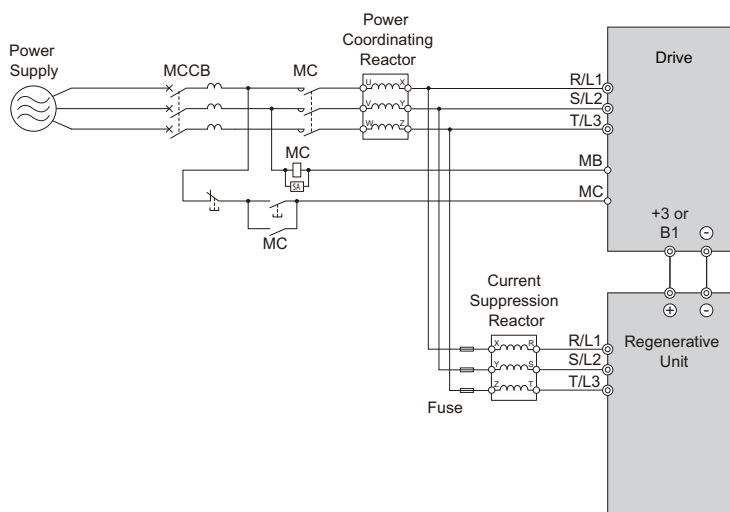

Figure 7.2 Power Supply Interrupt Wiring (Example)
- If several drives are connected to one MCCB or GFCI that is shared with other equipment, use a sequence that shuts the power OFF when errors are output by using magnetic contactor (MC) as shown in Figure 7.2.